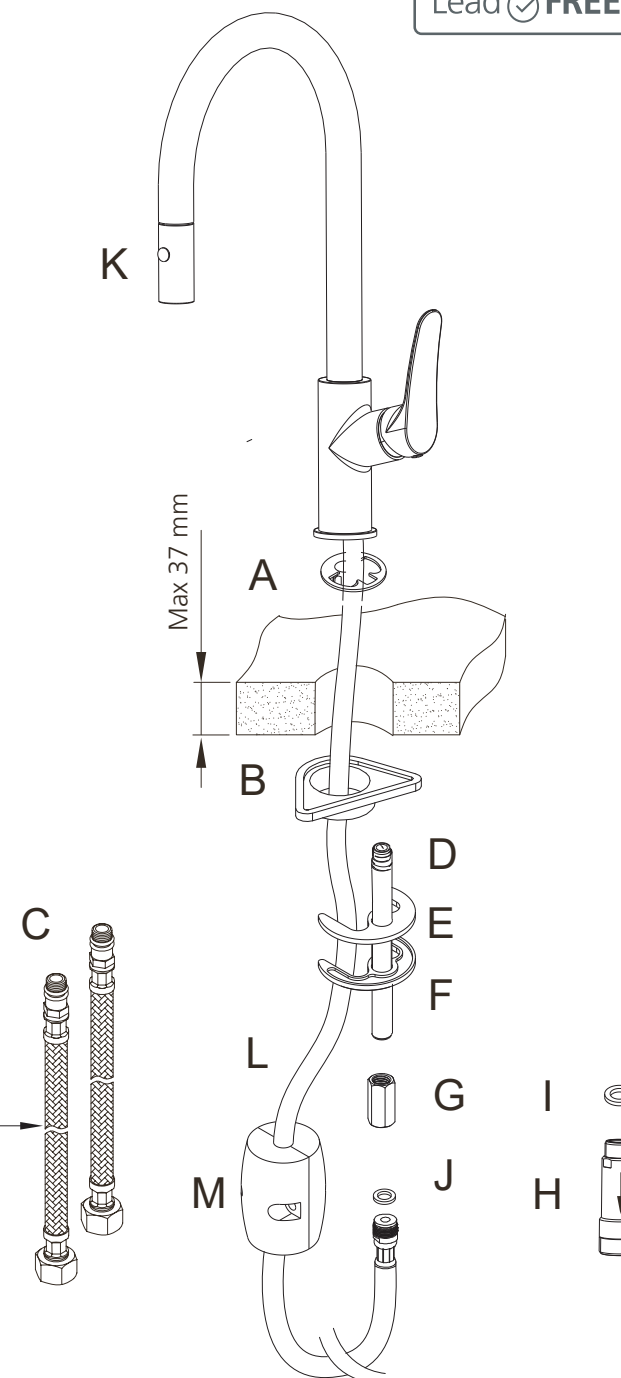

FIGURE 1
3. Ensure Product is complete as per exploded drawing (Figure 1).
6. Ensure bench sealing washer (A) is in place on base of the Mixer.
7. Firmly screw the Mixer Tails (C) into base of the Mixer being careful to avoid damage to the o'ring seals. The Mixer Tails are colour coded, red for hot and blue for cold, the Mixer base inlet holes are stamped with 'H' for hot and 'C' for cold, or red mark for hot and blue mark for cold. Hand tighten only.
8. Screw Threaded Rod (D) into base of Mixer.
9. Feed the Mixer Tails (C) and (L) through the mounting surface each Tail alternately. Feed the Braided Hose through the mounting surface and the Stabiliser Plate (B), and position the mixer on the mounting surface ensuring the sealing washer (A) and Stabiliser Plate (B) are positioned correctly.
10. Slide Rubber Horse Shoe (E) onto the Threaded Inlet Tube (D) followed by Metal Horse shoe Plate (F).
11. **N.B The Mixer Tails should be positioned towards the user and the Fixing/Inlet tube to the back.** Using Fixing Nut (G) tighten Mixer to the mounting surface.
12. Screw Dual Check Valve (H) to end of Inlet Tube (D) ensuring sealing washer (I) is in place.
13. Screw male threaded end of Braided Hose (L) into Hose Dual Check Valve (H) ensuring sealing washer (J) is in place.